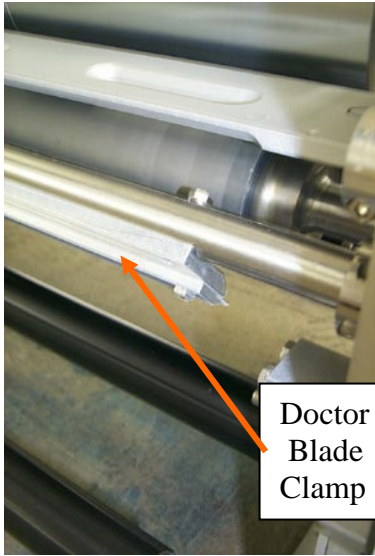

Figure D4-1
3. Check doctor blade for proper installation, alignment, and excessive wear. Also inspect for the presence of foreign material, or nicks (See Figures D4-1 & -2).